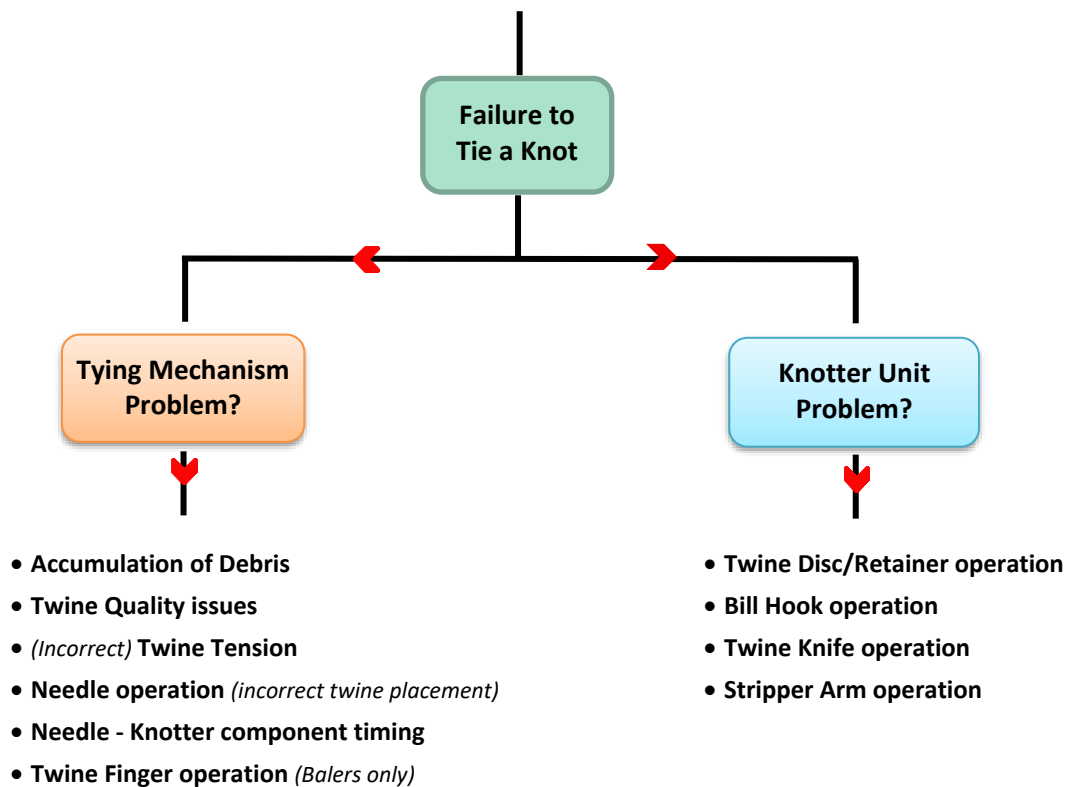

Fig.4.1 Principal causes of binder, trusser or baler tying problems
- It could be a problem with some other part of the tying mechanism (*Fig.4.1*)
These are potential causes of tying problems where the Knotter Unit isn't at fault, but rather there's any issue with some other element of the tying mechanism. It may not even be a mechanical issue (*i.e. those on the left-hand branch in Fig.4.1*).